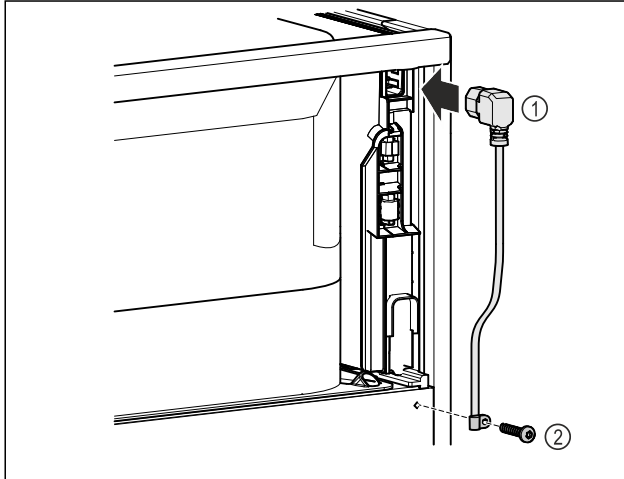

Fig. 13
- ▶ IEC socket of the power cable Fig. 13 (1) on the rear side of the appliance.
- ▶ Install mains tension relief. Fig. 13 (2)